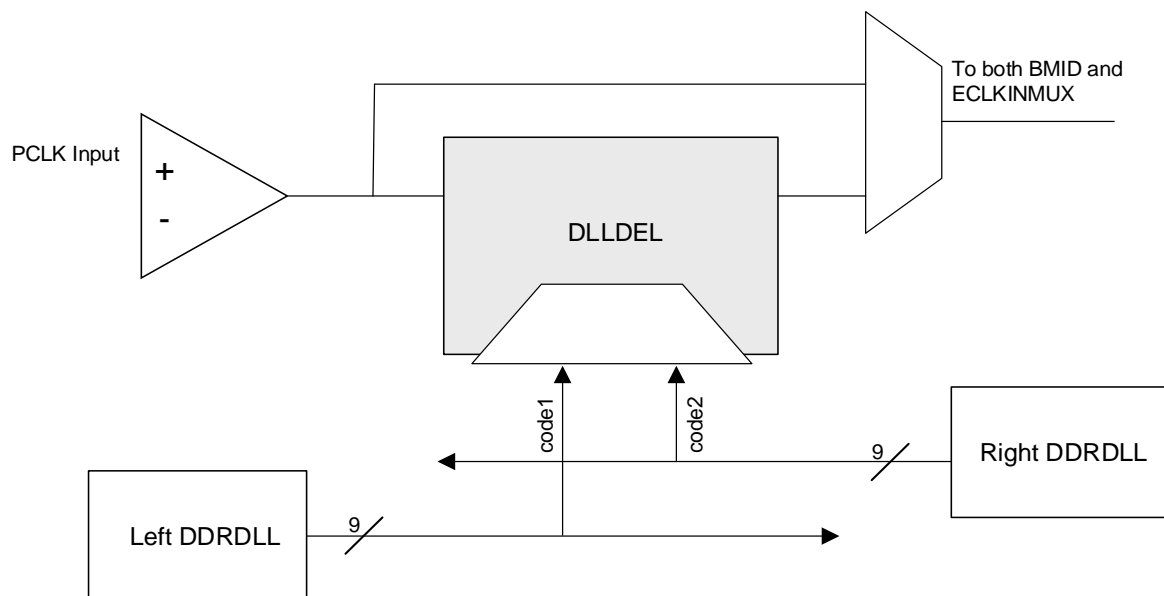

Figure 2.11. DLLDEL Function Diagram
- The code is also sent to another slave DLL, DLLDEL, which takes a primary clock input and generates a 90-degree shift clock output to drive the clocking structure. This is useful to interface edge-aligned Generic DDR, where 90-degree clocking needs to be created. Not all primary clock inputs have associated DLLDEL control. Figure 2.11 shows DDRDLL connectivity to a DLLDEL block. The connectivity to DQSBUF blocks is similar.